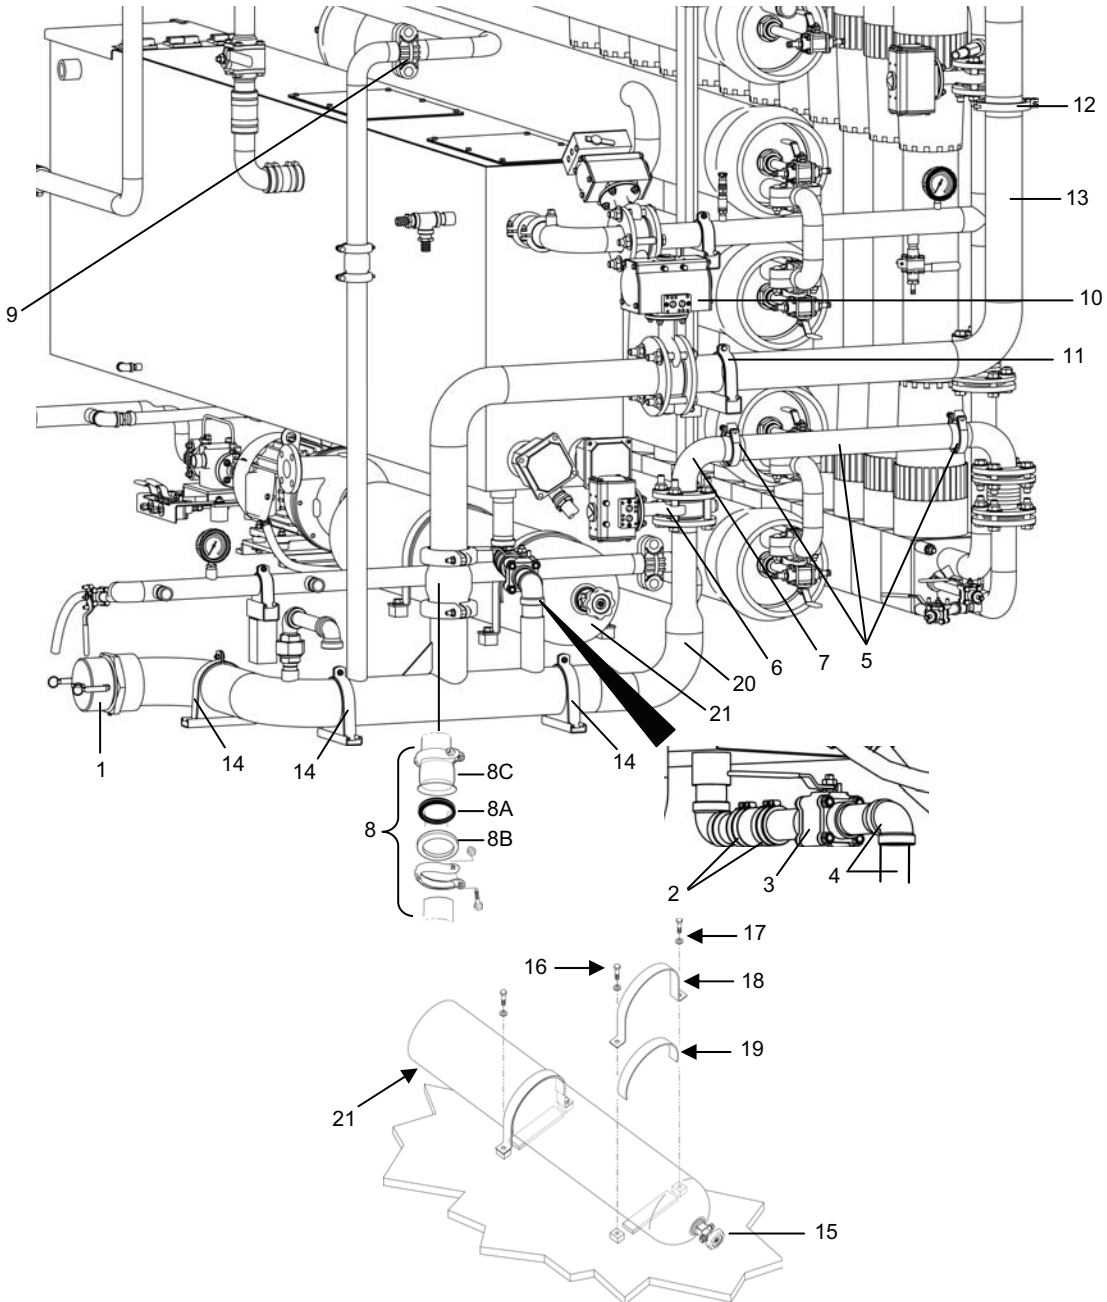

Figure 14. Waste Out Pipe Spool Installation.
11. Install the new air receiver tank as follows (see Figure 14).
- a. Inspect the support band rubber cushions (19) and replace if damaged or worn.
- b. Slide the new tank (21) into position under the supports bands (18).
- d. Position the upper rubber cushions (19) between the tank and the support straps.
- f. Connect the air hose to Air Tank Shut-Off Valve V-907 (15).
12. Reinstall the waste out pipe spool as follows (see Figure 14):
- a. Position the waste out pipe spool (20) into its original location.
- b. Reinstall but do not tighten the three flex strut pipe supports (14) that secure the waste out pipe spool to the floor of the TWPS.